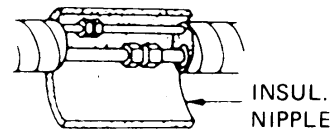

Fig. 8
3. After performing a leak test on the connecting part, insulate it with INSUL. NIPPLE and finish with a vinyl masking tape over it. Fig. 8